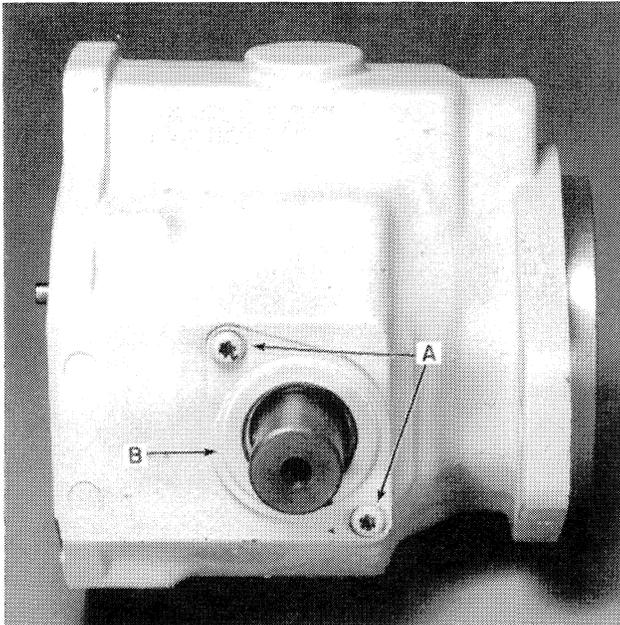

FIGURE 4-19
c. Remove the torx head screws, A, and cover plate, B, from the pintle shaft side, Figure 4-19.